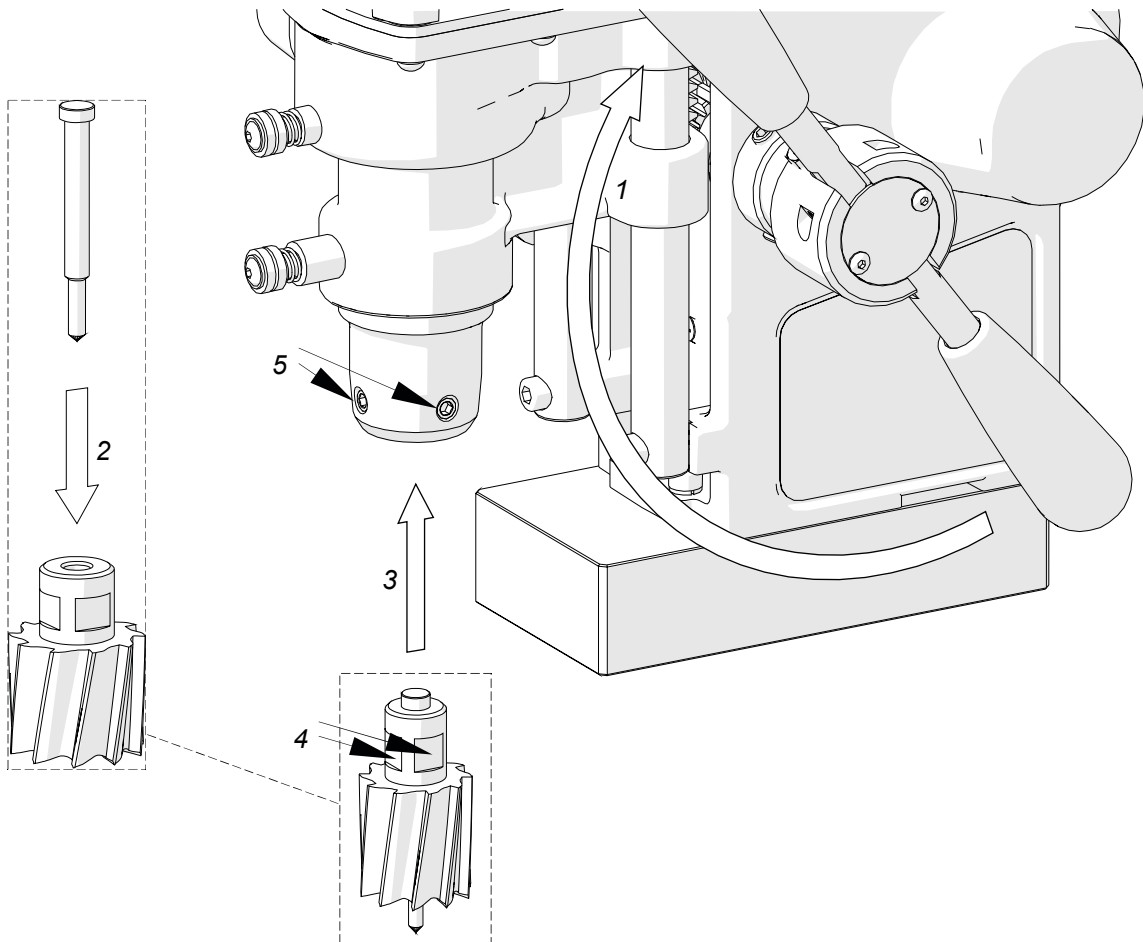

Figure 3. Mounting the annular cutter
Unplug the power cord from the power outlet and raise the motor by rotating the spoke handles clockwise (1, Figure 3). Insert the proper pilot pin into the annular cutter (2), then wear protective gloves and place the cutter into the arbor (3) in such a way to align the flats 4 with the set screws 5. Finally, tighten both set screws with the supplied 4 mm hex wrench. To remove the cutter, proceed in reverse order.